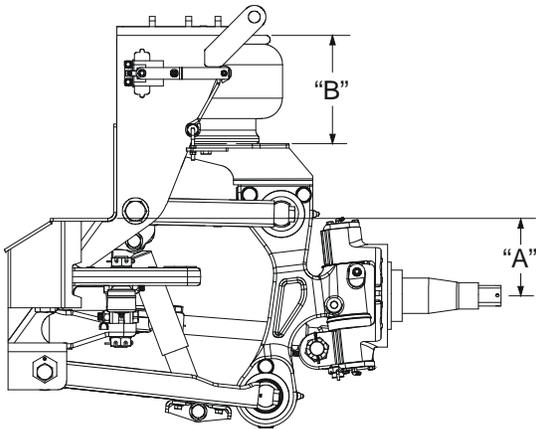

Figure 11 – Measurement at Ride Height
The ride height of the front suspension is the distance from the bottom of the chassis frame rail to the center of the wheel spindle. An alternate measurement may be taken as the height of the air spring (Figure 11).
- A: On vehicles with front suspension equipped with (2) height control valves, check and adjust the rear suspension first.
4. Measure either the wheel center to bottom of frame (“A”) or air spring height (“B”). If the dimensions are not within $\pm 1/8$ ” of measurements in **Figure 11**, adjust as follows.